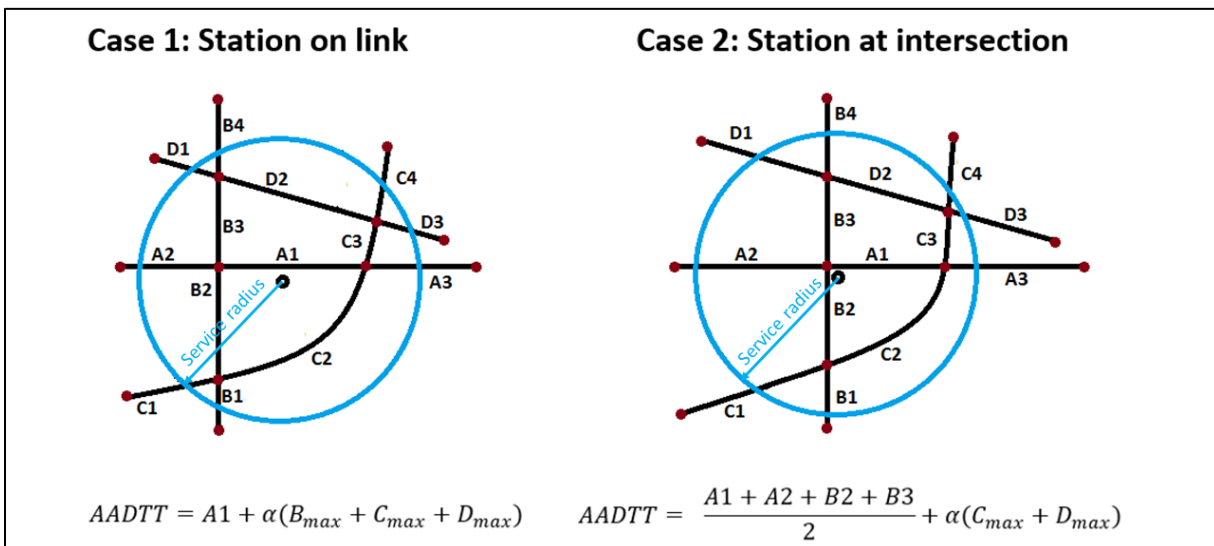

Figure 2. AADTT calculation for Case 1 (station between intersections) and Case 2 (station at intersection).
- Case 1: If a station is in the middle of an arc, the arc’s AADTT is counted fully. In Figure 2, this is Arc A1.
likely do one of three things: go straight through, turn left, or turn right. In all of these cases, the same truck would be counted in two different arc's AADTT. In Figure 2, the station is at the intersection of highways A and B, where arcs A1, A2, B1, and B2 meet.
- Identify all other non-adjacent highways in the 3-mile buffer around the station. In Figure 2/Case 1, the non-adjacent highways are B, C, and D. In Case 2, the non-adjacent highways are C and D.